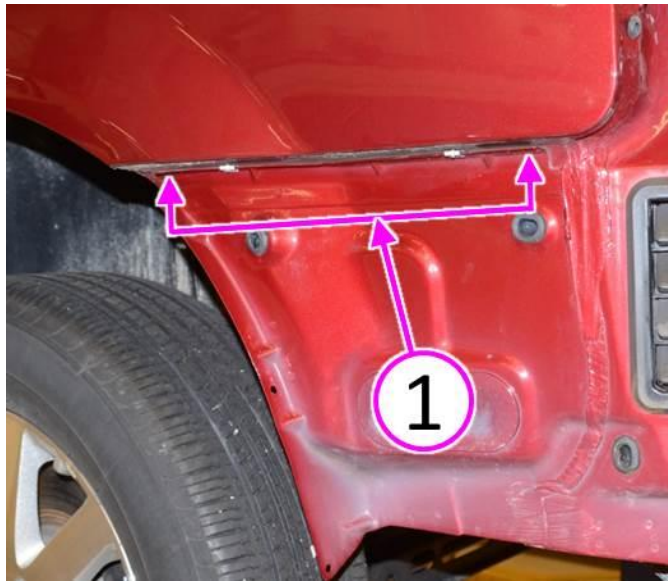

Fig. 1 Clean Facia Support Flange Slot
3. Clean inside the left side fascia support flange slot to remove any dirt or debris (Fig. 1).